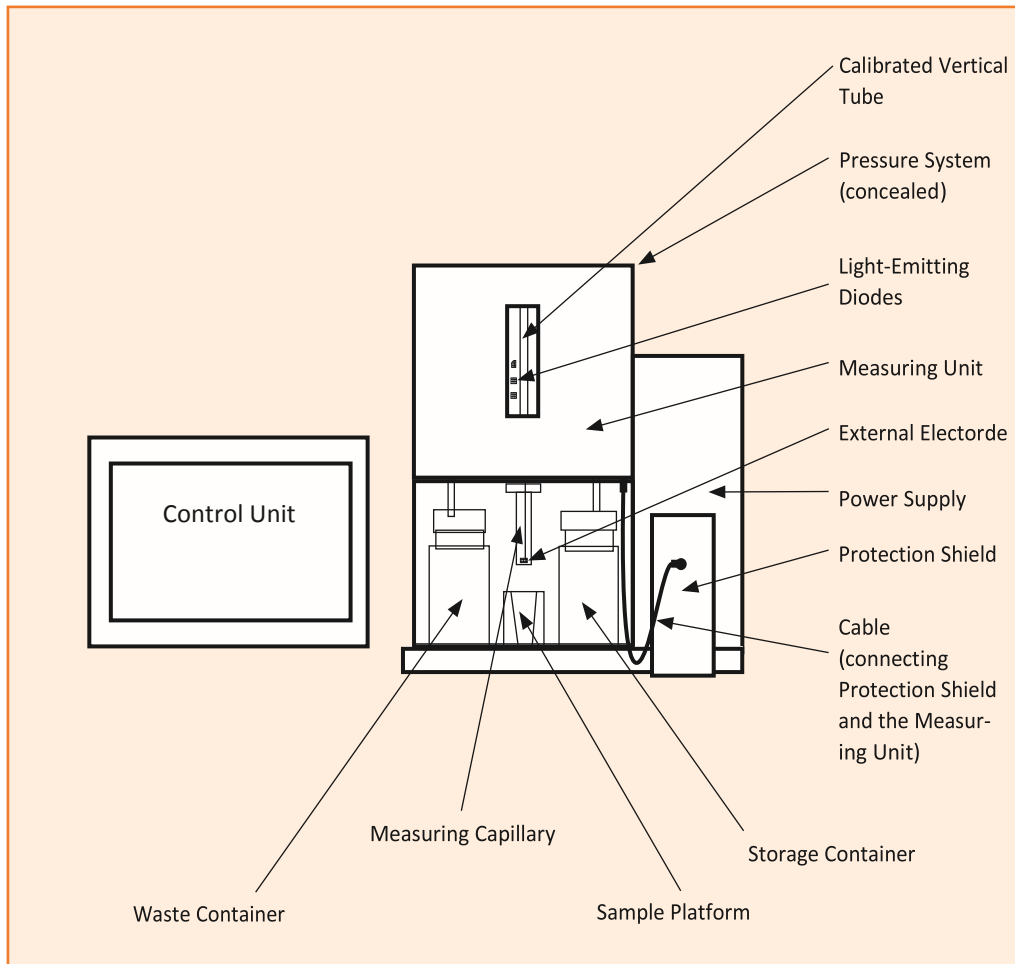

Figure 6: Schematic of CASY, measuring unit, frontal view.
- + Precision measuring capillaries (see Figure 6). Depending on the configuration one of the capillaries is installed on delivery. Additional capillaries (optional) are delivered in their storage cups included in the accessory box.
The measuring unit (see Figure 6) contains the measuring electronics, the fluid system, and the valves required to control the measuring process. A schematic diagram of the fluid/pressure system including all valves can be found in 9.1 The Liquid/Pressure System. The close monitoring of the measuring volume (200 µl or 400 µl) required to determine the concentration is carried out by a light-barrier monitored, calibrated precision vertical tube. The CASY System handles larger measuring volumes (maximum 3.6 ml) by employing a multiple measurement cycles. The results of the individual measurement cycles are accumulated.
The sampling chamber accommodates the following elements (see Figure 6):
The **external electrode** (see Figure 6) is made of platinum, arranged in front of the capillary, can rotate freely, and be pulled downwards if necessary.
The **measuring capillary** (see Figure 6) is made of highly resistant plastic. It is secured to the sampling chamber cover by a cap nut. At the lower end of the capillary a precision measuring pore is positioned. The measuring pore has a cylindrical geometry with a diameter to length ratio of 1:1. The axial arrangement of the hole minimizes the risk of blockage and prevents impurities from accumulating inside the capillary body. Precision measuring capillaries with diameters 45 µm, 60 µm, and 150 µm are available to match the requirements of nearly all applications. The lower measuring limit of a measuring capillary amounts to approximately 2% of the capillary diameter.
The **pressure system** is accommodated in its own cylinder situated behind the measuring unit (concealed in Figure 6). The no-maintenance vacuum pump, combined with pressure sensors, guarantees that the vacuum required to aspirate the sample remains constant, irrespective of any external pressure. The pressure system also interacts with the valves on the measuring unit to control all fluid movements required to empty the vertical tube, replenish the fluid system and counter-flush the measuring capillary. A schematic diagram of the fluid/pressure system including all valves can be found in 9.1 The Liquid/Pressure System.
The **power supply** for the measuring electronics of the CASY system is housed in the cylinder arranged outside to the right (see Figure 6). Special filters ensure that the mains power supply is afforded maximum interference protection.